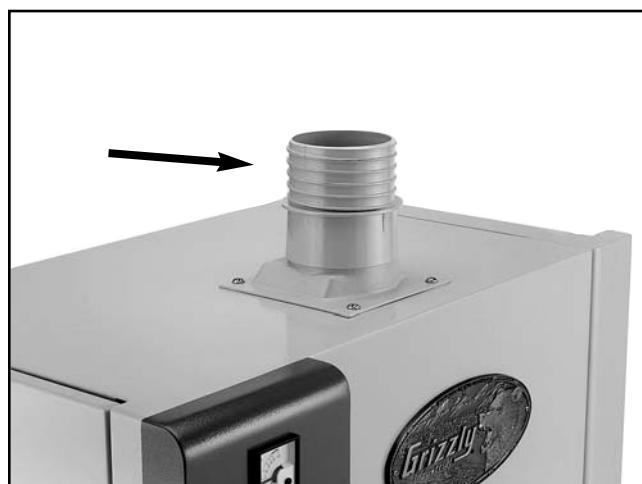

Figure 8. Dust collection hook-up.
1. Install the 4" dust port (**Figure 8**) on the mounting locations at the top of the sanding unit with the supplied M6-1.0 x 10 phillips head screws.